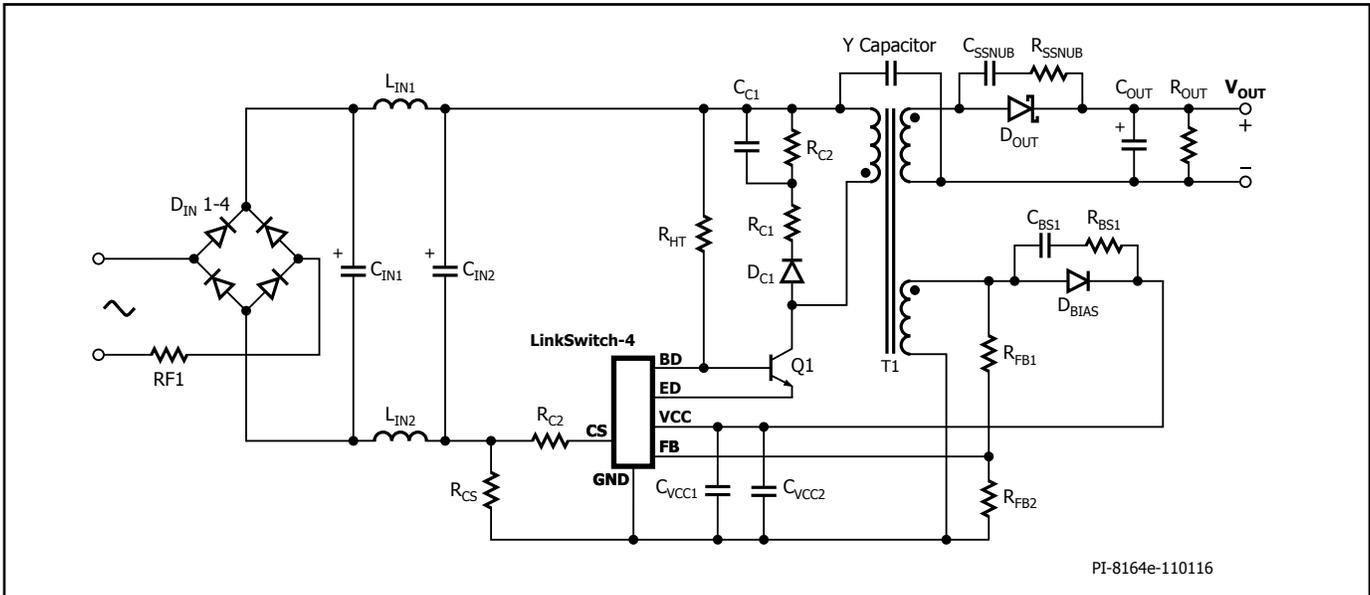

Figure 33. Y Capacitor Connection.
- A Y capacitor is effective at reducing EMI conducted emissions, particularly in the upper bands of 10 MHz plus. Power levels of 10 W and above may benefit from the use of a Y capacitor. However, only low values should be used in wall adapters, about 470 pF maximum, due to leakage currents presenting an unpleasant mild shock risk. The Y capacitor should be connected from the  $+HT$  pin of the transformer primary to the  $-V_E$  of the secondary output as shown in Figure 33. The Y capacitor provides a path for the high frequency current through the transformer, capacitively coupled from the primary to the secondary windings, to loop back to the primary side, instead of flowing down the output lead in a loop via the EMI test equipment (LISN) and back up in a loop via the AC input leads to the primary side. Currents flowing through the Y capacitor will not be measured by the LISN so the resulting measurements will be lower.